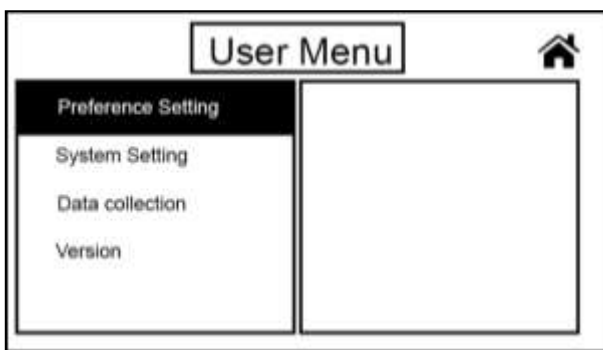
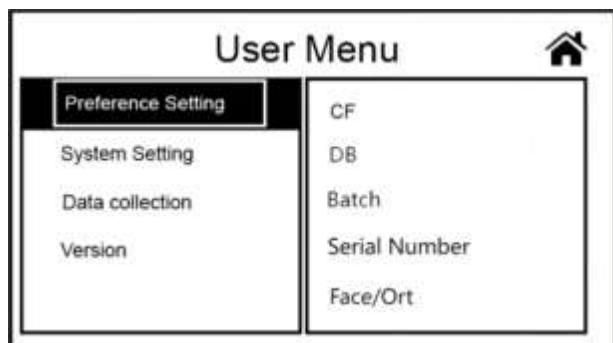

Figure 45
Figure 46
1) Touch the “Menu” key to enter the “User Menu” interface, as shown in Figure 45 below. Then press “Preference Setting” to enter the “Preference Setting” interface, as shown in Figure 46.